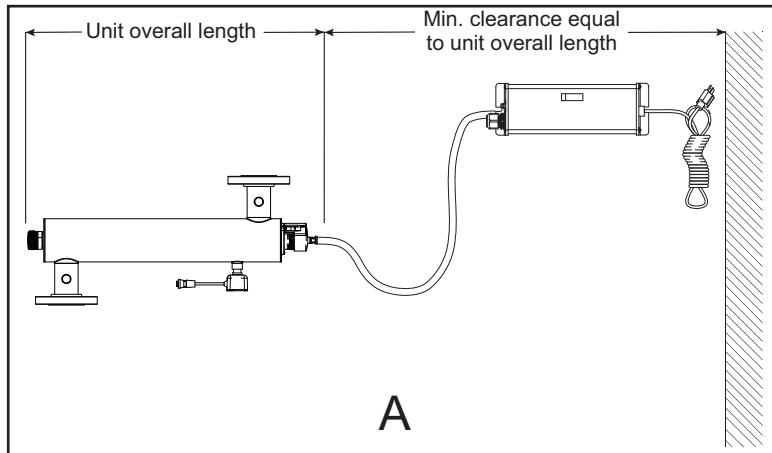

Figure 3 UV System Installation - Vertical and Horizontal
2. Figure 3 shows the installation of a typical UV system and the related components that may be used for the installation. The use of a by-pass assembly is recommended in case the system requires “off-line” maintenance. In this case, note
3. Select a suitable location for the UV system and its related components. As it is recommended to install a GFCI, make sure that this is taken into consideration prior to any installation. The system can either be installed vertically (inlet port at the bottom) or horizontally as shown in Figure 3 A. However, the vertical installation is the most preferred method. When selecting a mounting location, leave enough space to allow the removal of the UV lamp and/or quartz sleeve (typically leave a space equal to the size of the chamber itself).